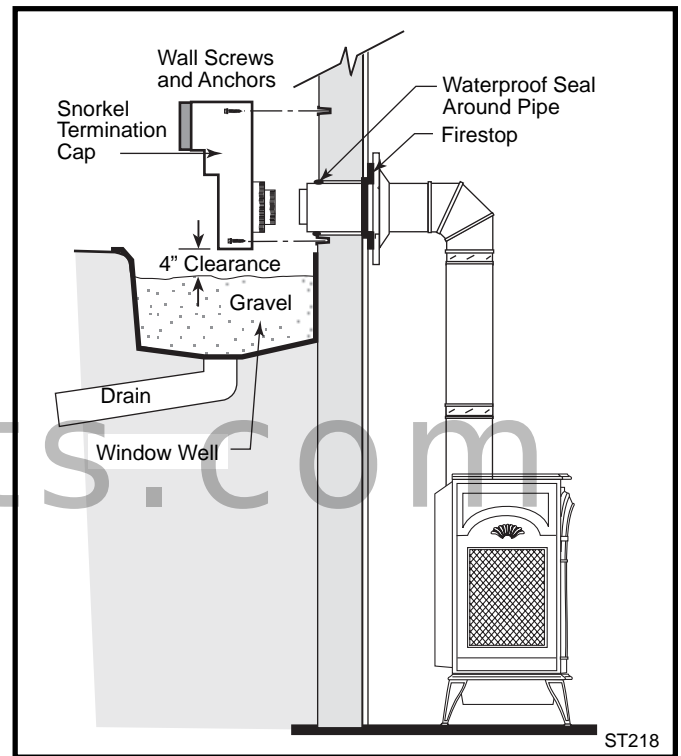

Fig. 34 Snorkel kit installation.
Install Snorkel Kit #7FSDVSKS when it is not possible to meet the required vent termination clearances of 12" (305mm) above grade level. The snorkel kit will allow installation depth of down to 7" (178mm) below grade level. The seven inches is measured from the center of the horizontal vent pipe as it penetrates the wall. **If the venting system is installed below grade, a window well must be installed with adequate and proper drainage.** (Fig. 34)
2. Remove soil to a depth of approximately 16" (400mm) below the base of the snorkel. Install a window well (not supplied). Refill the hole with 12" (305mm) of coarse gravel and maintain a clearance of at least 4" (100mm) below the snorkel. (Fig. 34)